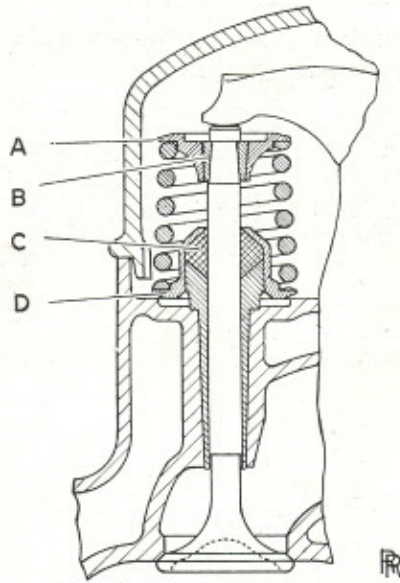

FIG. 10. SECTION THROUGH VALVE GUIDE.
Carbon deposit should be scraped from the head before removing the valves. To remove the valves the spring must be compressed, carrying with it the washer **A** (Fig. 10), the valve meanwhile being held on its seat.
**Grinding in the Valves.** This should be done by assembling on the valve, after insertion in the head, a spring washer, **A**, and conical washer, **B** (Fig. 10). The valve can then be manipulated quite easily by means of the washer, the first and second fingers being placed under the latter and the thumb against the end of the valve stem.